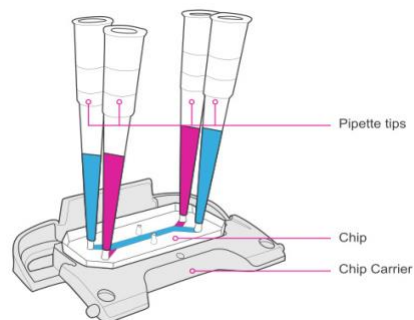

Figure 8: Chip with filtered tips inserted into ports with respective media
2. Gently wash the bottom channel of the chip with 200  $\mu$ L of hBMEC culture medium with 5% PPP and 10  $\mu$ M Y-27632 and the top channel with 200  $\mu$ L with complete Short-Term medium (from the day before). Since there are 2 different media being used, they must be separated by keeping them in filtered tips instead of droplets (See Figure 8 below).